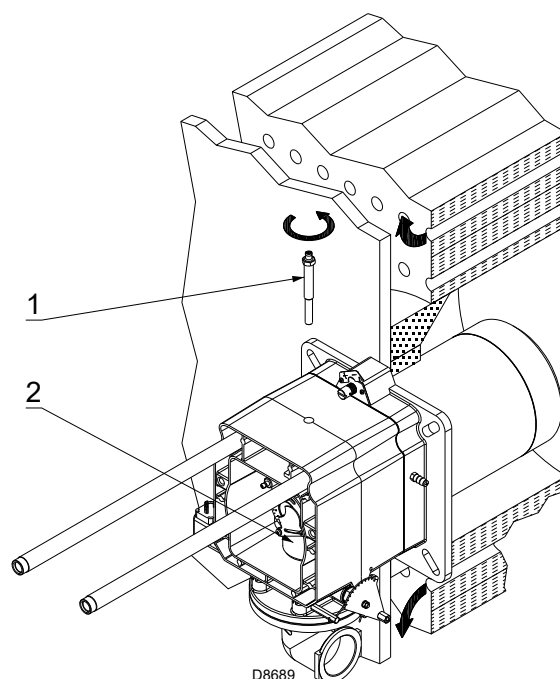

Fig. 13
- remove the screw 1)(Fig. 13);
- take out the inner part 2)(Fig. 13) of the head, and then calibrate them.
At this point of the installation, the combustion head is fixed to the boiler as shown in Fig. 13.